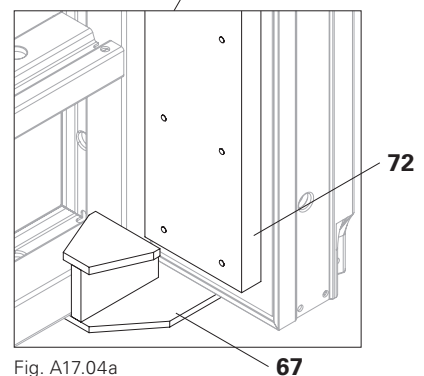

Fig. A17.04a
- Upper web rests against the Panel MX-2 (**5**). (Fig. A17.04a)
Are the Foundation Straps MX/TR (**67**) – 4x at the top and 4x at the bottom – in contact with the Panels MX-2 (**5**)? (Fig. A17.04a)